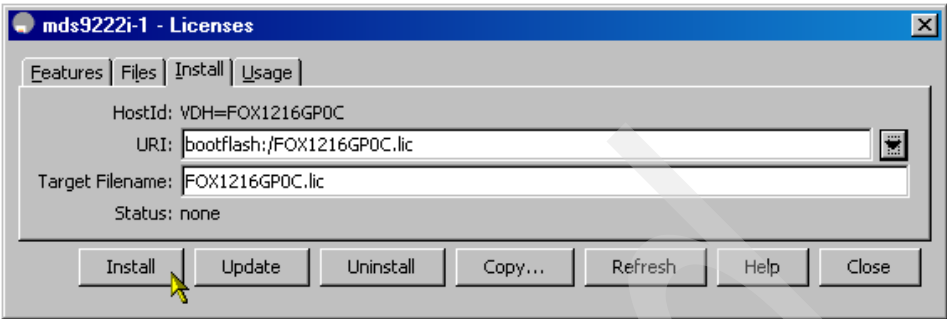

Figure 6-26 Installing the license file
3. Click **Install** to start the license file installation, as shown in Figure 6-26.